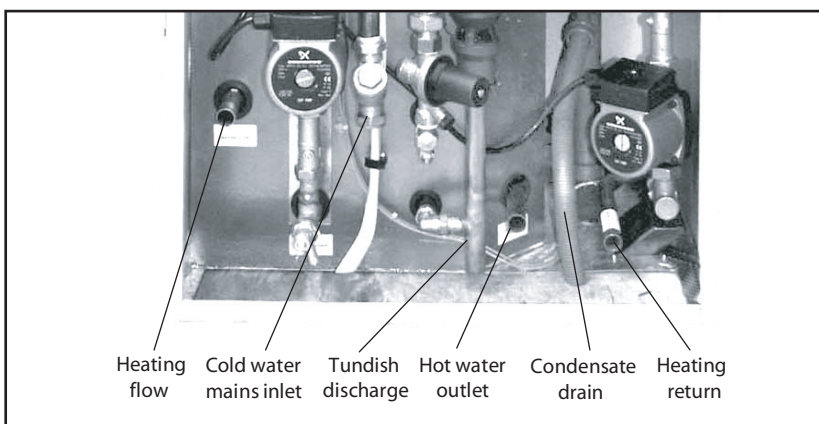

Figure 4.3 Sealed system model connections
- (a) The pressure relief discharge is connected to the tundish discharge from the automatic CA filling device (figure 4.3).